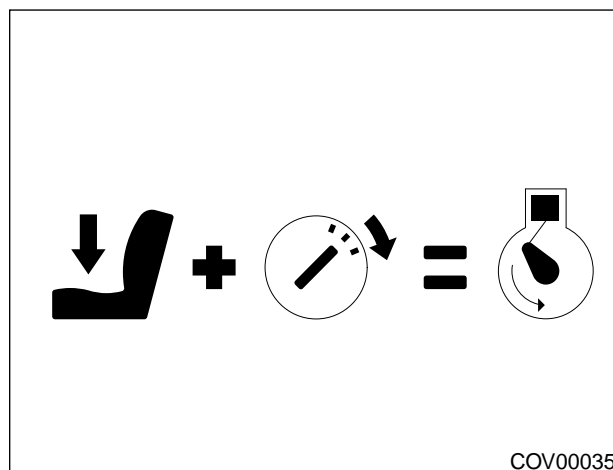

Figure 4.10 - Start Interlock Function
The symbol (1), on the dashboard decal - Figure 4.10, indicates the Operator must be seated to deactivate the start inhibitor before starting the machine.